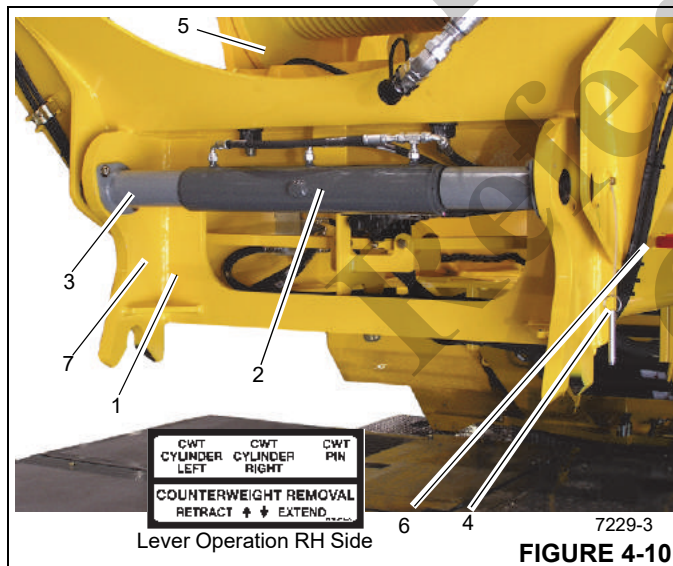

FIGURE 4-10
- When installing counterweight (1) (Figure 4-9), make sure that both auxiliary hoist structure (7) (Figure 4-10) hydraulic mounting pins are fully extended and retainer pins are in place before counterweight is lifted.
8. Using the counterweight removal levers (6) (Figure 4-10), extend the counterweight removal cylinders (5) (Figure 4-9) and carefully lower the counterweight (1) (Figure 4-9) onto the counterweight supports.
9. Remove the detent pins (4) (Figure 4-10) to allow the pin removal cylinder (2) (Figure 4-10) to retract the pins on its rod ends.
10. Use the counterweight removal levers (6) (Figure 4-10) to retract the pins on the rod ends of the pin removal cylinder (2) (Figure 4-10) and unpin the auxiliary hoist structure (7) (Figure 4-10) from the turntable.
11. Retract the counterweight removal cylinders (5) (Figure 4-9) and carefully lower the auxiliary hoist structure (7) (Figure 4-10) onto the counterweight.
13. Secure the counterweight (1) (Figure 4-9) to the auxiliary hoist structure (7) (Figure 4-10) with the counterweight to hoist structure pins (12) (Figure 4-9) and hitch pins (11) (Figure 4-9).
Do not attempt to separate the auxiliary hoist structure (7) (Figure 4-10) from the counterweight (1) (Figure 4-9) while on the counterweight stand (1) (Figure 4-8). The auxiliary hoist structure (7) (Figure 4-10) may hit the counterweight (1) (Figure 4-9) and knock it off the stand.
15. Attach an adequate lifting device with slings to the auxiliary hoist structure (7) (Figure 4-10). Use the crane to carefully transfer the auxiliary hoist structure (7) (Figure 4-10) and counterweight (1) (Figure 4-9) to the ground or suitable transport vehicle.
3. Assemble the standard removable counterweight (1) (Figure 4-9) and auxiliary hoist structure (7) (Figure 4-10) on the ground or on a suitable transport vehicle.
Assemble the heavy removable counterweight (2) (Figure 4-9) and auxiliary hoist structure (7) (Figure 4-10) on the ground or on a suitable transport vehicle.
4. Attach an adequate lifting device with slings to each heavy counterweight weldment's lift lugs. Using the lifting device, carefully install the two heavy counterweight weldments (2) (Figure 4-9) in place on the counterweight auxiliary hoist structure (7) (Figure 4-10). Pin the counterweight weldments in place with the pins.
5. Using an adequate lifting device, with slings attached to the auxiliary hoist structure (7) (Figure 4-10), carefully place the auxiliary hoist structure (7) (Figure 4-10) onto the counterweight (1) (Figure 4-9).
6. Secure the counterweight (1) (Figure 4-9) to the counterweight removal cylinders (5) (Figure 4-9) with the cylinder to counterweight pins (9) (Figure 4-9) and hitch pins (8) (Figure 4-9). Secure the counterweight (1) (Figure 4-9) to the auxiliary hoist structure (7) (Figure 4-10) with the counterweight to hoist structure pins (12) (Figure 4-9) and hitch pins (11) (Figure 4-9).
12. Using the counterweight levers (6) (Figure 4-10), fully extend the counterweight removal cylinders (5) (Figure 4-9) and carefully raise the auxiliary hoist structure (7) (Figure 4-10) to meet the mating plates on the turntable.
13. Use the pin control lever (6) (Figure 4-10) to extend the pins on the rod ends of the pin removal cylinder (5) (Figure 4-10) and pin the auxiliary hoist structure (7) (Figure 4-10) to the turntable.
14. Install the detent pins (4) (Figure 4-10) to secure the pins on the rod ends of the pin removal cylinder (2) (Figure 4-10) to keep the auxiliary hoist structure (7) (Figure 4-10) secured.
16. Secure the counterweight (1) (Figure 4-9) to the auxiliary hoist structure (7) (Figure 4-10) with the counterweight-to-hoist structure pins (12) (Figure 4-9).